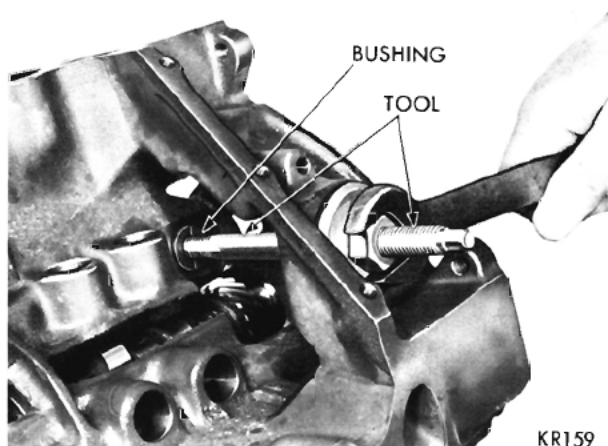

Fig. 96—Removing Distributor Drive Shaft Bushing Using Tool C-3052
(1) Insert Tool C-3052 into the old bushing and thread down until a tight fit is obtained (Fig. 96).
(2) Hold the puller screw and tighten puller nut until the bushing is removed.